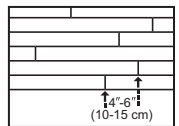

Figure 4
- Be attentive to staggering the ends of the boards at least 4"-6" (10-15 cm) when possible, in adjacent rows (Figure 4). This will help ensure a more favorable overall appearance of the floor.
- Check for a tight fit between all edges and ends of each plank. End-joints of adjacent rows should be staggered 4"-6" (10-15 cm) when possible, to ensure a more favorable overall appearance (Figure 4).